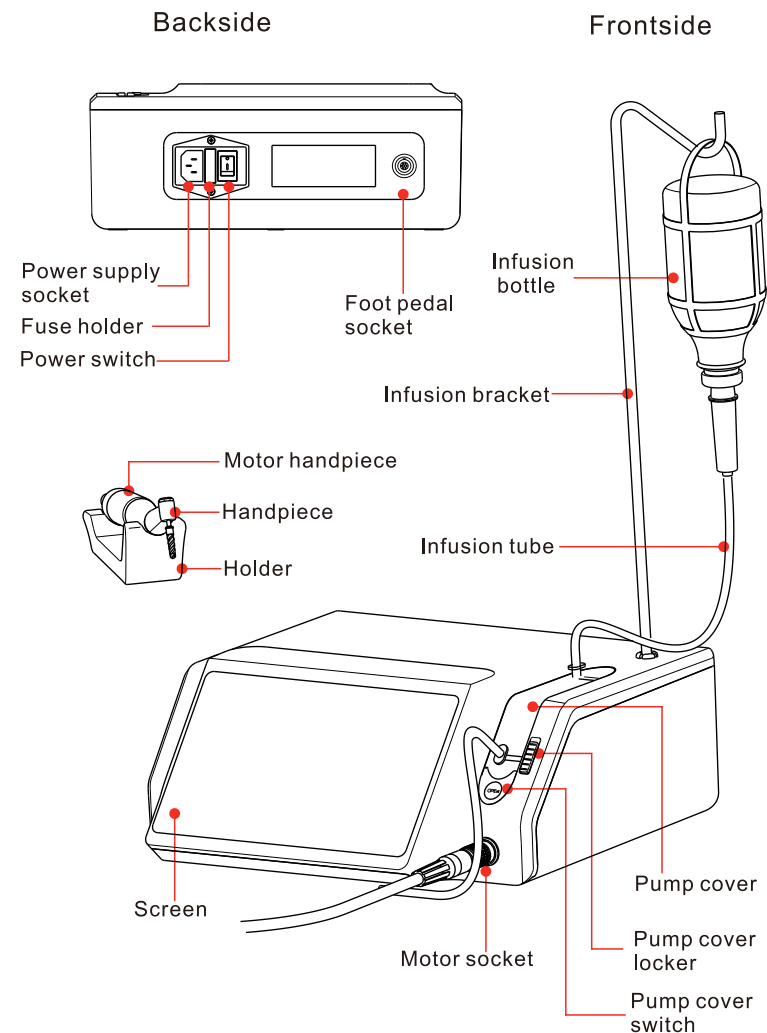

Fig. 2
3.2 The host structure description (fig. 2)